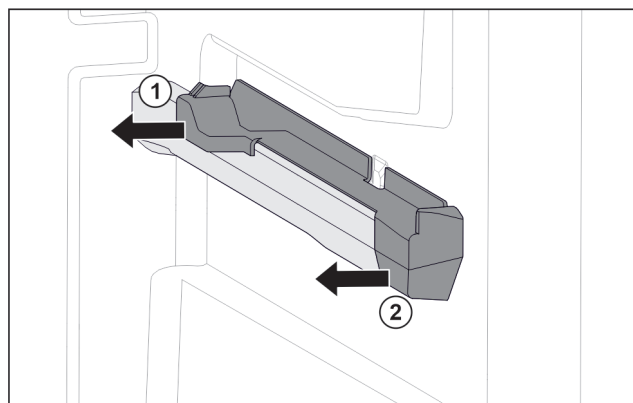

Fig. 216 Attachment on the right moulded rib
- Pull off attachment at the back sideways. *Fig. 216 (1)*
- Pull off attachment at the front sideways. *Fig. 216 (2)*